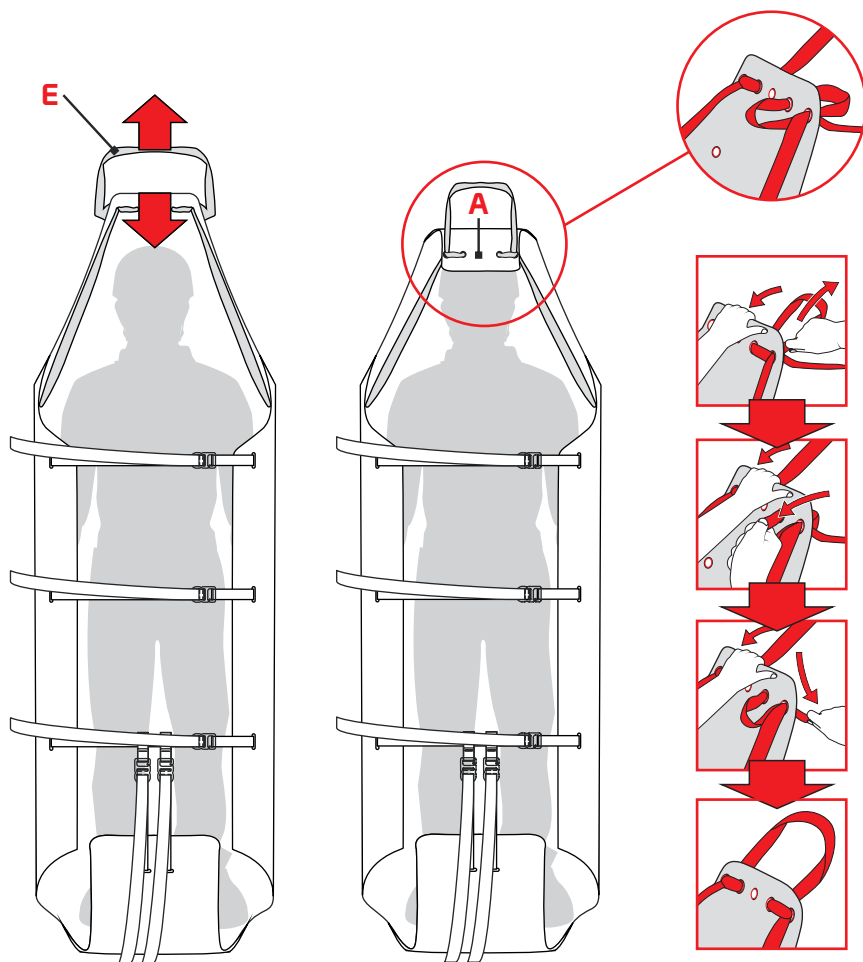

Fig.15
- c) Tension the sling (E) to lift the end part of the support surface (A) enough to contain the head of the patient and immobilise it (fig. 15).